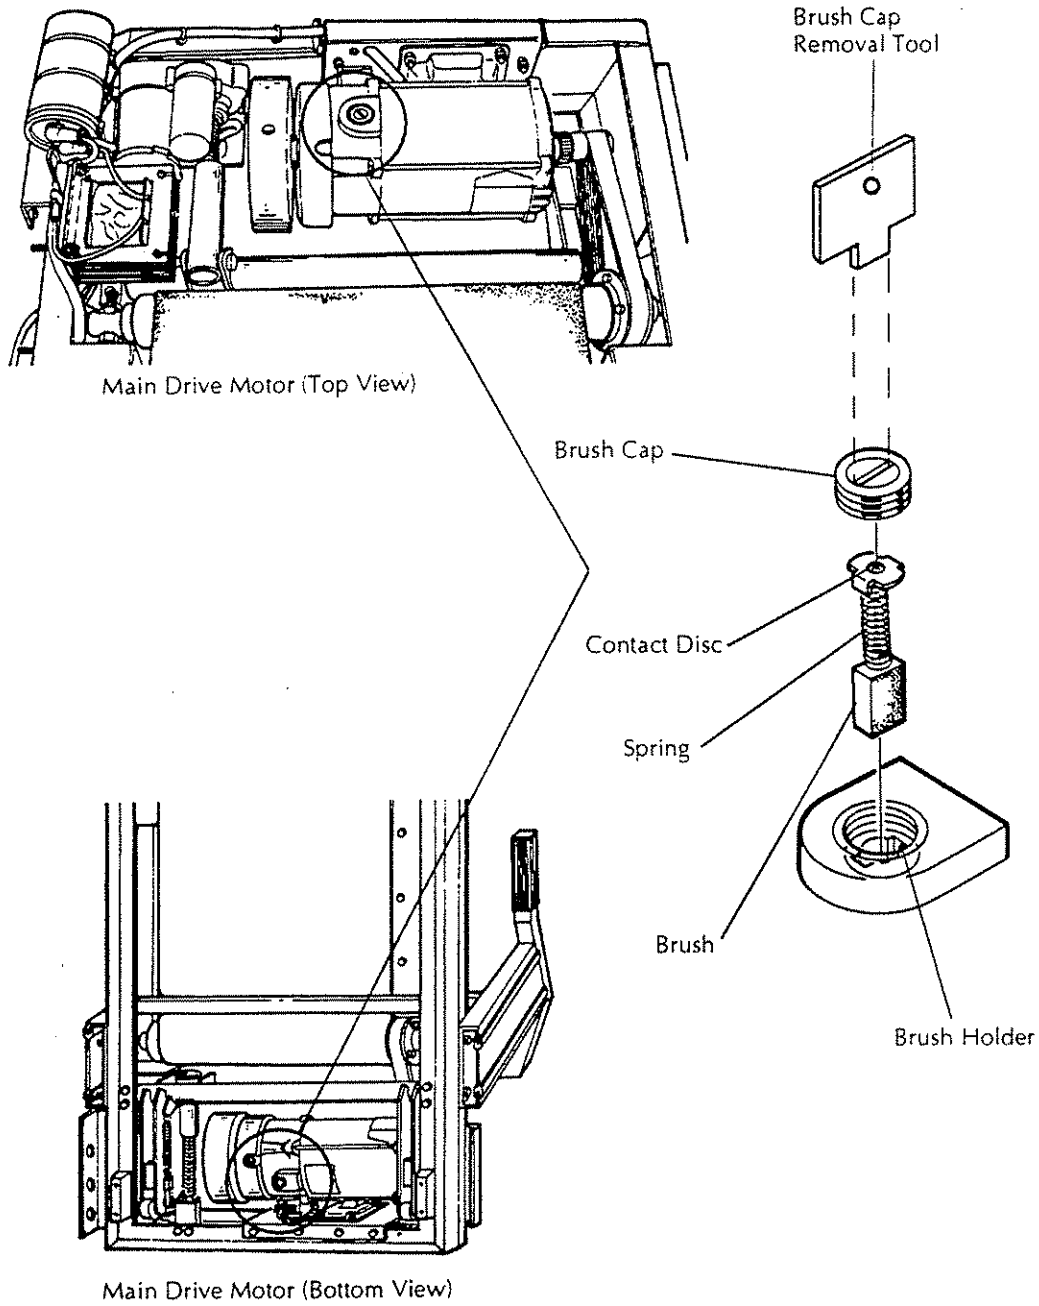

Figure 3-6: Checking the Main Motor Brush Assembly
4. Unscrew and remove, using the brush cap removal tool, the main motor's top brush cap. See Figure 3-6.
5. Carefully pull out the brush from the main motor brush holder. See Figure 3-6.
7. Slide the motor brush (new or original) into the motor brush holder. Make sure that the brush wire doesn't become entangled in the spring. See Figure 3-6.
8. Install the brush cap. Refer to Figure 3-6 and complete the following:
11. Using the brush cap removal tool, unscrew and remove the main motor's bottom brush cap. See Figure 3-6.